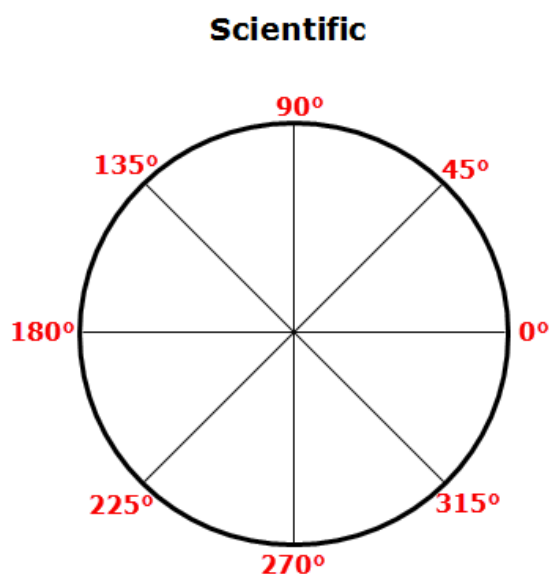

Figure 1. Scientific mode
- Scientific – All internal calculations use the scientific mode. In scientific mode, the 0 degree reference point is at the 3 o'clock position. Measures from 0 to 360 degrees. [Figure 1]